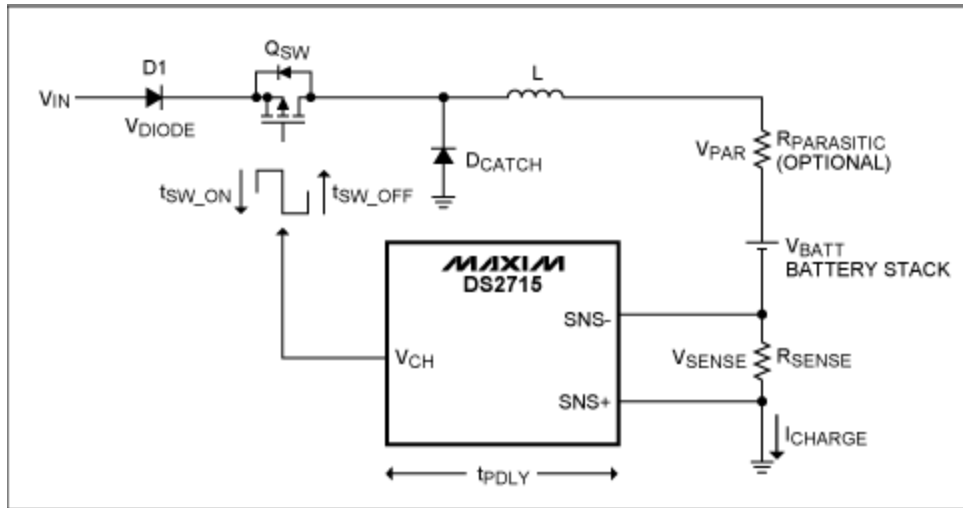

Figure 1. The DS2715 switching reference circuit.
**Figure 1** shows the equivalent circuit for a buck switching charger with a battery and current-sense resistor as a load. The DS2715 operates by regulating the voltage across  $R_{SENSE}$  to a preset value. The sense resistor value, along with this preset reference voltage, then controls the value of  $I_{CHARGE}$ . For NiMH batteries, four stages of charging are preferred—three of which (Precharge, Fast-Charge, and Topoff) are regulated through the voltage across the sense resistor. The fourth stage, Maintenance, replenishes the self-discharge of the cells with a small continuous charge current through a nonregulated path. The precharge and topoff states operate at 25% of the average current regulated during fast-charge. This is accomplished in the DS2715 by adjusting the internal reference voltage for  $V_{SENSE}$  to reduce  $I_{CHARGE}$ .
In order to simplify the switching-speed approximation, let us make the assumption that the voltage across the inductor for each  $Q_{SW}$  state stays constant. Let us also assume that the midpoint of  $V_{SENSE}$  from peak to peak [ $V_{FC} + (0.5 \times V_{HYS\_FC})$ ] provides a reasonable steady-state condition for calculating the inductor voltage of each state. With those simplifications in place, the voltage drop around the loop of the reference circuit in Figure 1 for the  $Q_{SW\_ON}$  and  $Q_{SW\_OFF}$  states can be calculated to yield the inductor voltage for a given battery voltage as follows: